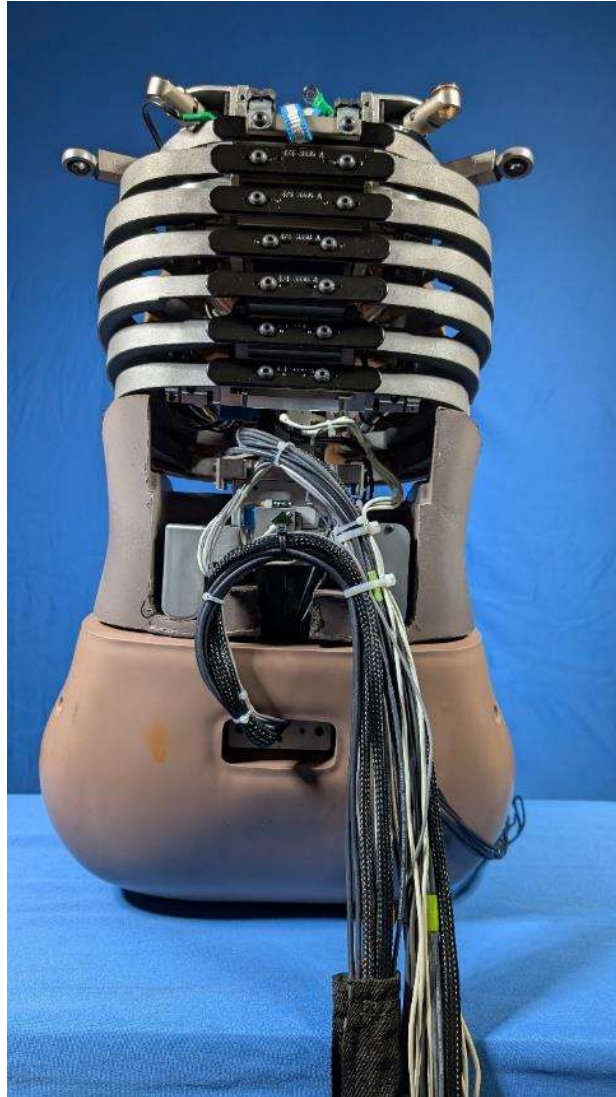

Figure 13-44. Tie the thorax and pelvis bundles together
- 13.4.5.1 Combine the thorax bundle with the pelvis bundle using a tie-wrap (Figure 13-44) to form the main “umbilical” cable.